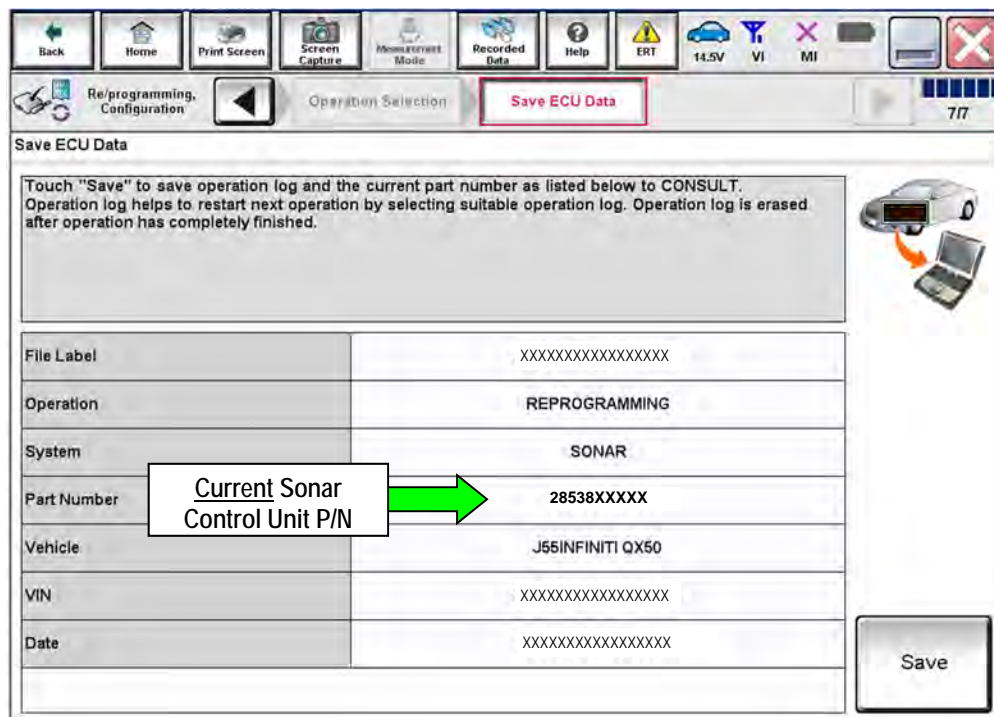

Figure 14
25. When you get to the screen shown in Figure 14, confirm that a reprogram is available as follows.